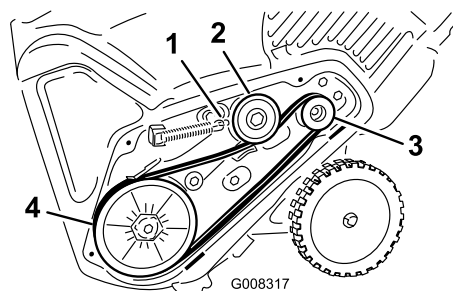

Figure 37
5. Install the new drive belt, routing it as shown in Figure 37.
8. Install the brake spring onto the idler arm (Figure 37).